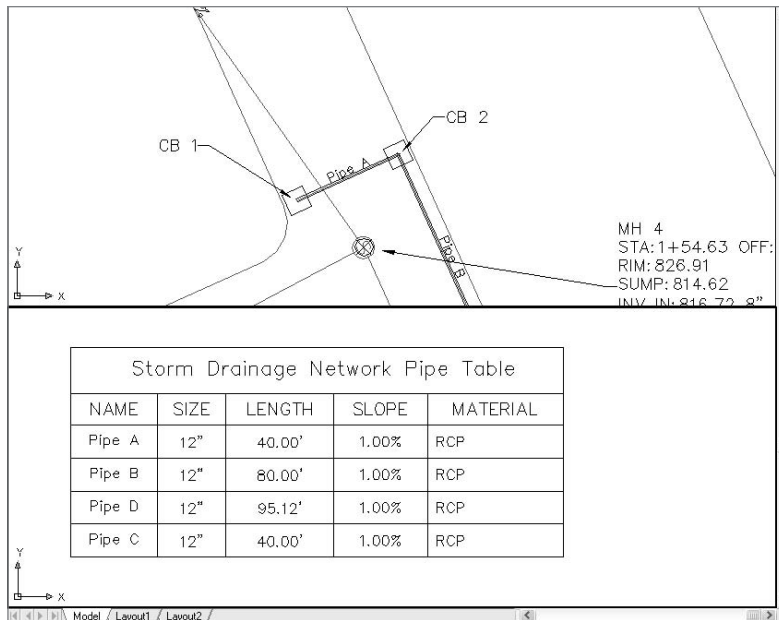

Figure 13.27
5. Click in the bottom viewport to activate it. Zoom in on the Storm Drainage Network Pipe Table. Your screen should look similar to Figure 13.27.